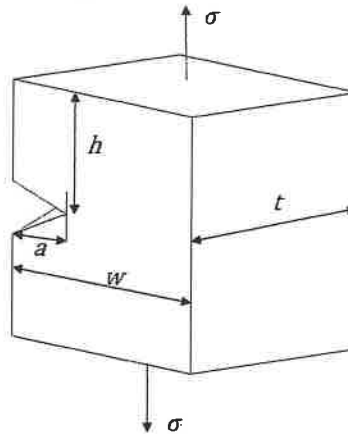

Figure Q1
- d) An edge cracked plate as shown in **Figure Q1** has the dimensions $w=100$ mm, $t=5$ mm, $h=300$ mm, and a remote tensile load of 100 kN is applied. Determine,